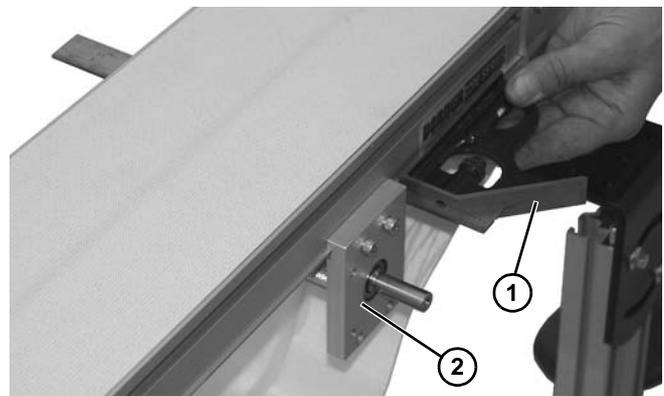

Figure 76
- Be certain to use a square (**Figure 76, item 1**) across mounting blocks (**Figure 76, item 2**), so blocks are aligned to one another, before tightening hardware.